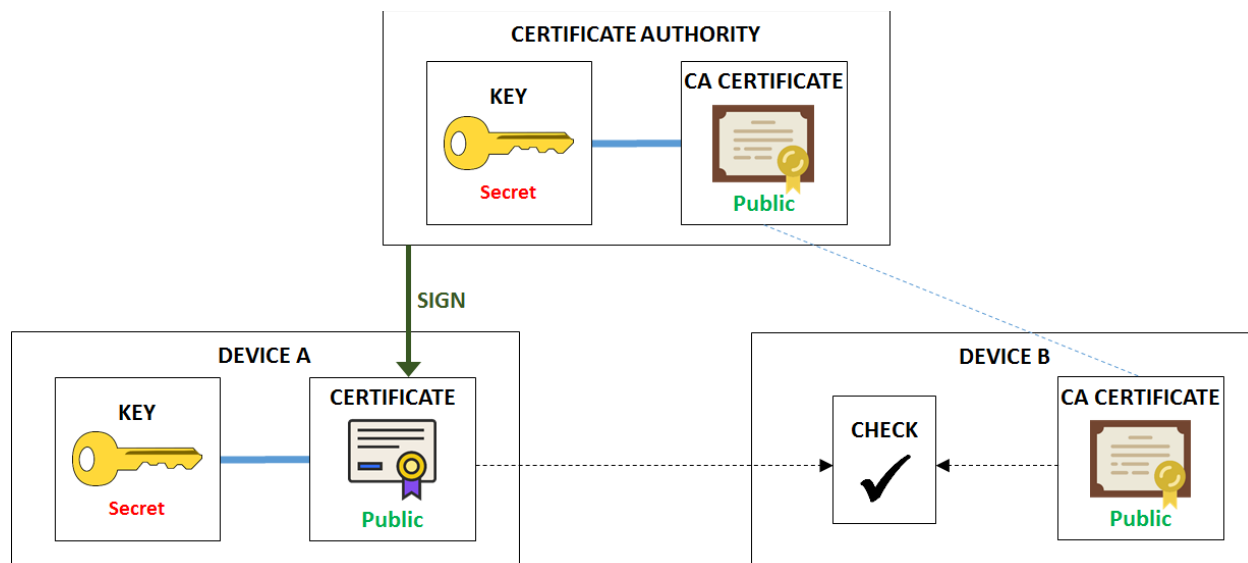
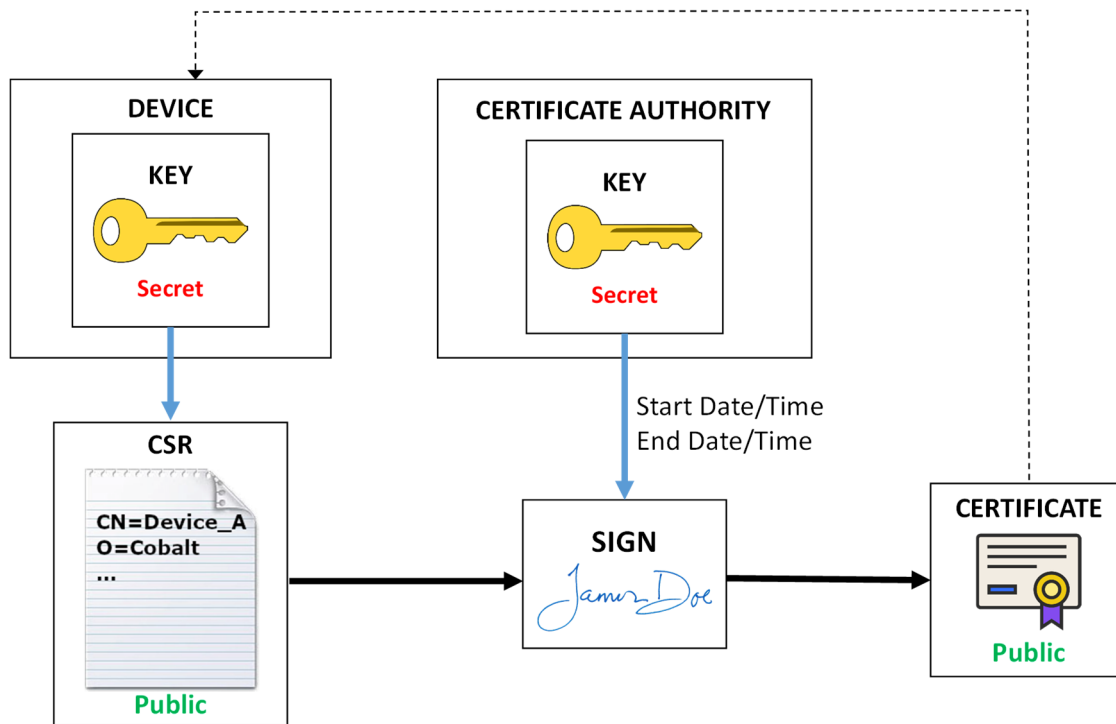

Figure 1: Certificate Checking
Figure 2: Certificate Signing Process
The certificate-based authentication process is illustrated in Figure 1. In this figure, Device B is deciding whether or not it trusts Device A. The same process can happen independently in the other direction. Device B has decided to trust certificates signed by a certain CA, so it has a copy of its CA Certificate, which was transferred to it through some secure means. Device B then receives a certificate from Device A. Unless that certificate matches the key stored in Device A, communication cannot even start. Device B can locally check the CA signature in the certificate coming from Device A against the CA Certificate it has. If that signature matches, and if Device B is prepared to trust the CA, then it will agree to communicate with Device A.
It is possible that a device goes “rogue” – in other words, it used to be authorized, but for whatever reason, it should not be accepted anymore. In Cobalt devices, this functionality is implemented using a list of **blocked devices**. One important field in the certificate is the **Common Name** – i.e., the name of the device. In a web site, this is usually the address of the site, e.g., [www.cobaltdigital.com](http://www.cobaltdigital.com), but it can be any text string. For Cobalt devices, the blocking is done based on the Common Name of the device. Referring back to Figure 1, Device B will execute an additional step after it verifies that the certificate from Device A is valid – it will check that the Common Name is not in a list of blocked devices. If it is, Device B will refuse to communicate, even though the certificate checks out.
Figure 1 shows a certificate that has been signed by a Certificate Authority. In order to be secure, the signing process must not expose the device’s secret key, not the CA’s secret key. The process uses an intermediate file called a **Certificate Signing Request**, or **CSR**. The process is illustrated in Figure 2.
As indicated in Figure 2, the process includes the following steps:
As illustrated in Figure 1, the device needs a matched key/certificate pair to operate. The device's certificate is its identity, presented to remote devices when connecting. Using the DashBoard interface, in the **Authentication** tab, the device can be configured to use either its built-in credentials, or credentials that have been uploaded by the user through the web interface. This is shown in Figure 5.
2. Upload only a certificate that is matched to the internal built-in key. In order to do this, you will need to obtain a CSR from the device itself and get it signed, as illustrated in Figure 2. This process is described in more detail below.